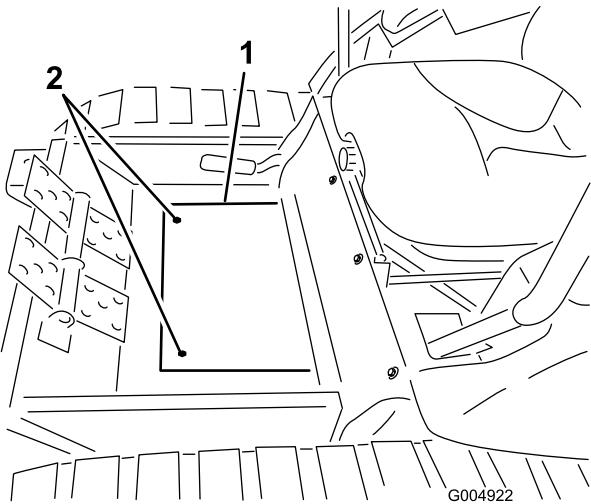

Figure 44
4. Remove the two screws securing the floor plate cover to the floor and remove the plate (Figure 44).